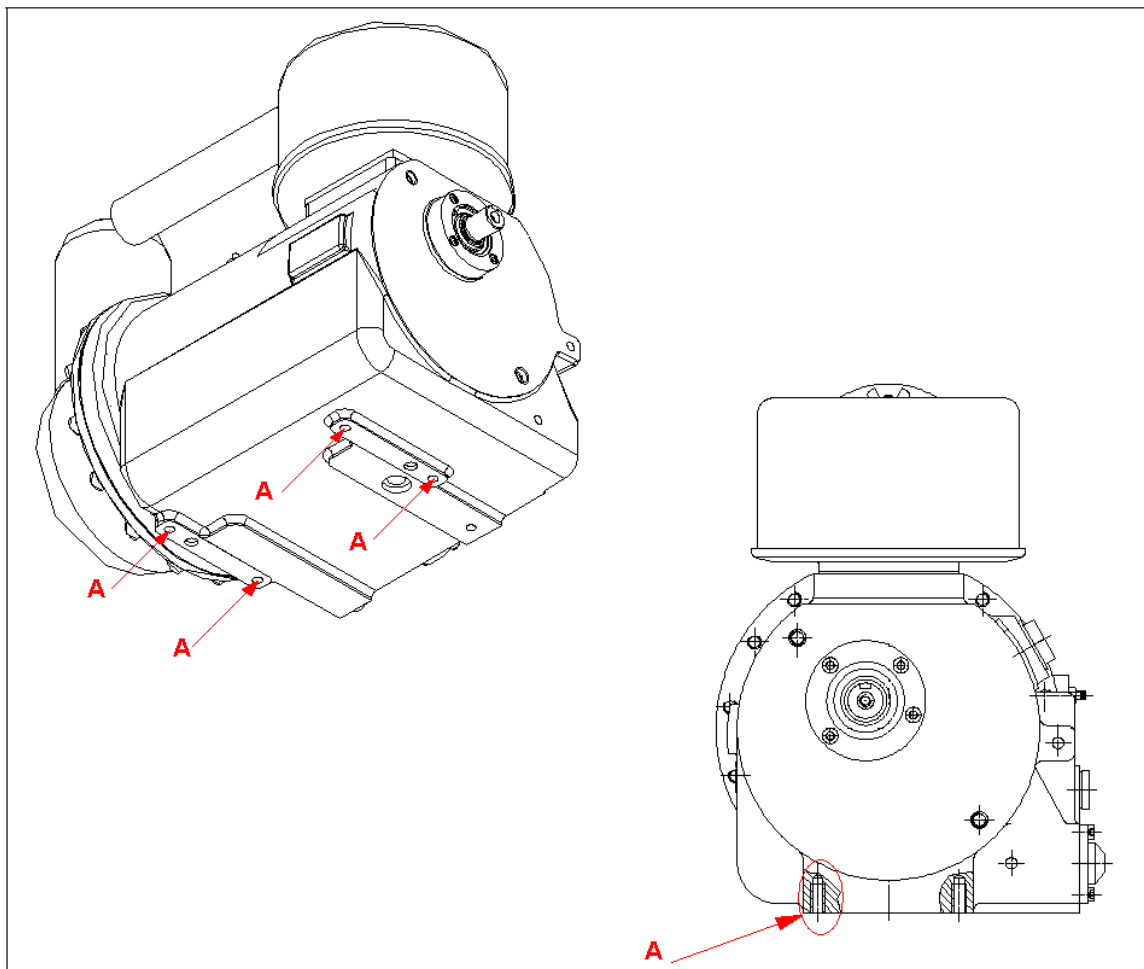

FIG.1.17 – BM compressor reference lay-out
- BM to be used base mounted, fixing it by n°4 M10 reference holes (named A in figure 1.17);